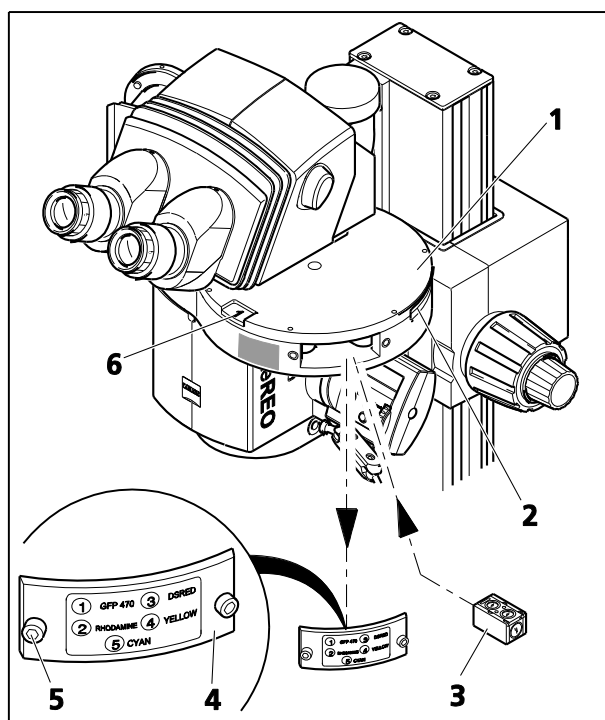

Fig. 16 Inserting filter blocks
- Unscrew the objective (Fig. 16/3) from the microscope body.
- Insert the coaxial epi-illumination S (Fig. 16/2) with the guide pin (Fig. 16/4) facing upward into the drill hole underneath mount S (Fig. 16/1).
- Screw both screws of the coaxial epi-illumination (Fig. 16/5) through the drill holes **A** (Fig. 16/5) into the mount S.
- Undo both screws (Fig. 16/5) and remove the cover (Fig. 16/4) from the mounting aperture of the PentaFluar vertical illuminator (Fig. 16/1).
- Insert the filter block (Fig. 16/3) in one of the five positions of the filter mount. To this end, push in the filter block through the installation aperture, until the magnetic fixation device catches the filter block and positions it in the correct place. When pushing the filter block in, take care that the barrier filters point up and the exciter filter points outward.
- Turn on the filter wheel at its knurling (Fig. 16/2) by one position and insert the next filter block.
The filter position swung into the light path is displayed in the read-out window (Fig. 16/6). To move this filter position into the installation aperture, turn on the filter wheel counterclockwise by two positions.
Affix the supplied self-adhesive labels for the filter combinations to the cover (Fig. 16/4) allocated to the corresponding position numbers.